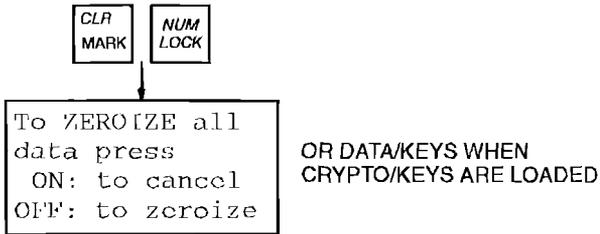

Figure 6-1 Zeroize Display.
6.1.1.2 Performing the Zeroize. The Zeroize function is initiated by pressing the *CLR/MARK* and *NUM LOCK* keys at the same time. This brings up a display that allows you to zeroize all data. See Figure 6-1.